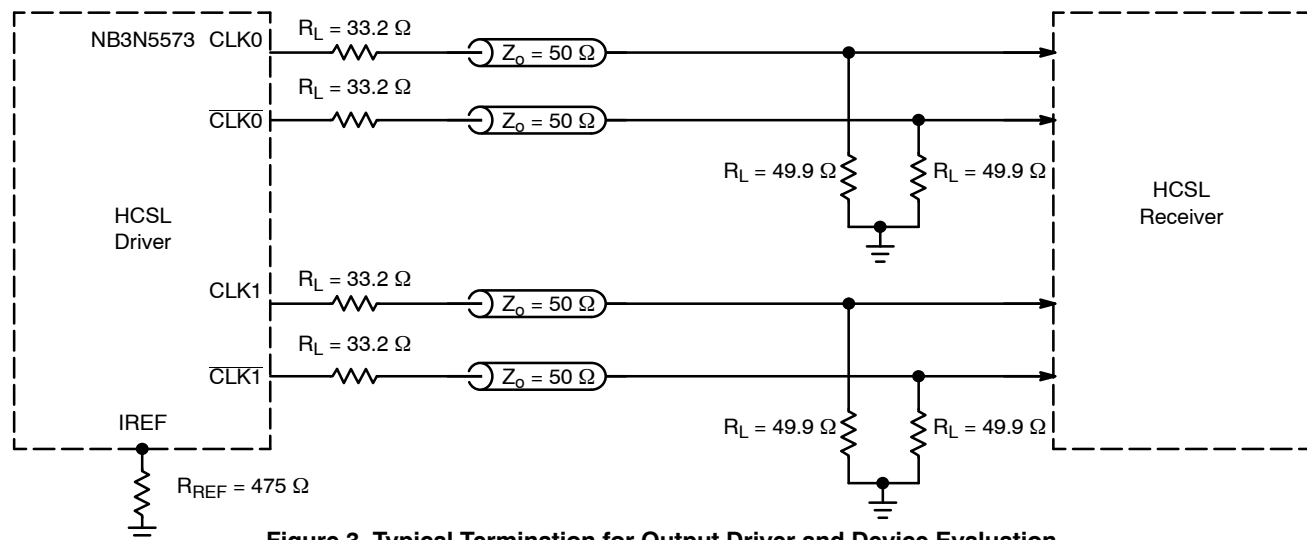

Figure 3. Typical Termination for Output Driver and Device Evaluation
4. Measurement taken with outputs terminated with R_S = 33.2 Ω, R_L = 49.9 Ω, with test load capacitance of 2 pF and current biasing resistor set at 475 Ω. See Figure 3.
5. Measurement taken from differential output on single-ended channel terminated with $R_S = 33.2 \Omega$, $R_L = 49.9 \Omega$, with test load capacitance of 2 pF and current biasing resistor set at 475 Ω . See Figure 3.